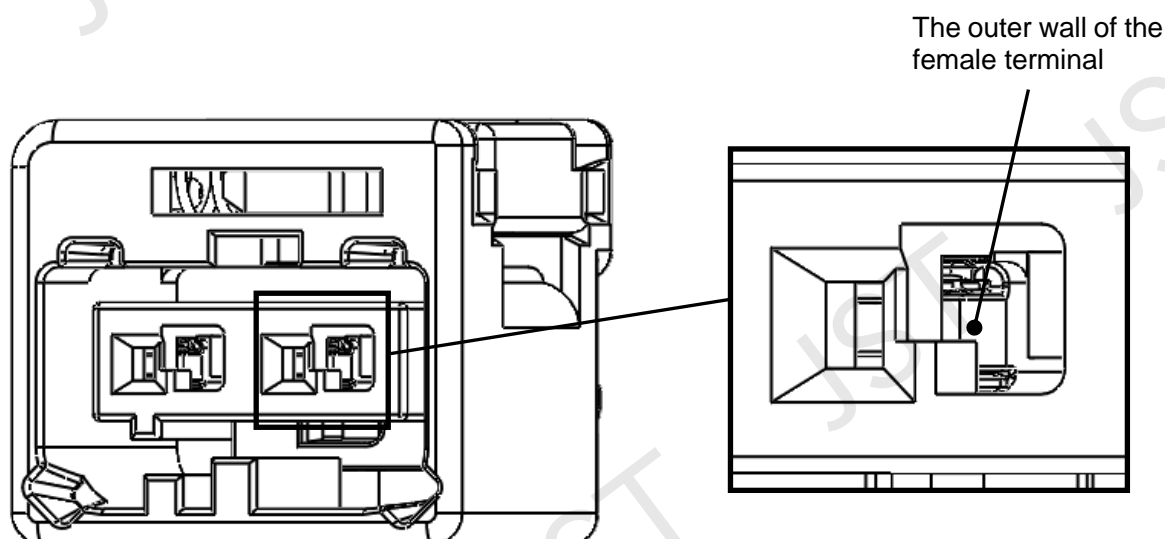

Fig.11
In electrical continuity inspection, use the male connector (refer to item 2 .Components) or contact the inspection probe with the outer wall of the female terminal (fig11). Do not insert the inspection probe and the like separately inside the female terminal.